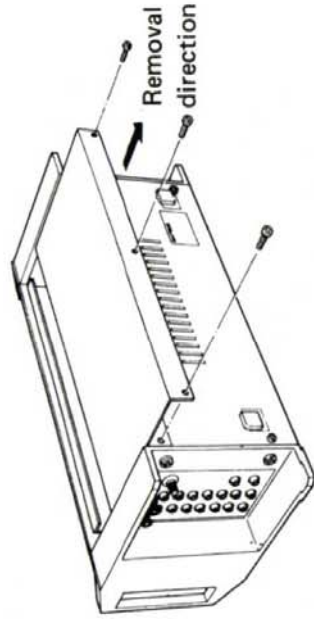

Figure 1.
- 1) Remove the screw attached to the top cover. (Refer to Fig. 1)